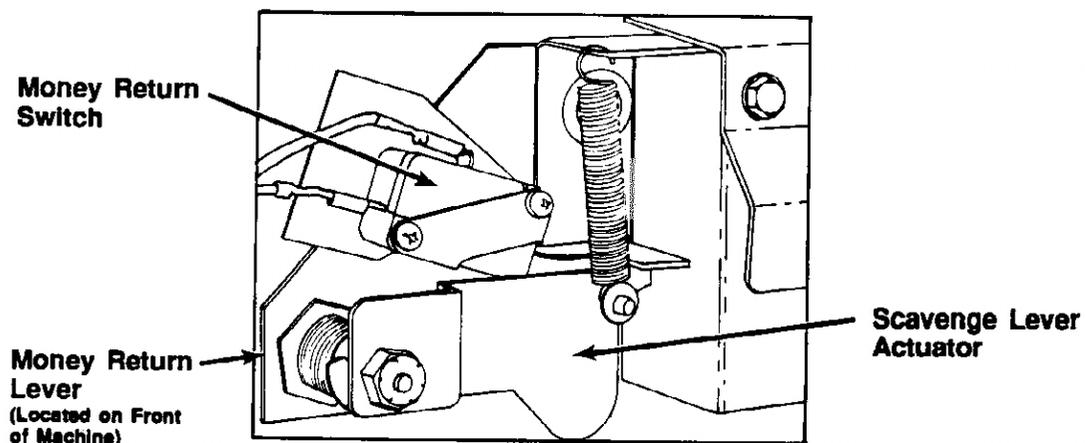

Figure 1-7. BC-1200 Bill Return Switch
When the MONEY RETURN lever on the BC-1200 (see *Figure 1-7*) or the MONEY RETURN switch on the BC-1400 is depressed, a switch closes and sends a signal to the CCC. The coin lockout coil in the (optional) coin acceptor is released and the transport motor rotates in the reverse direction. If the switch is held (ON) for more than 10 seconds, the transport will turn OFF automatically to prevent excess wear and overheating. If it is held ON longer than 10 seconds, the message CHKBILL RETRN will be displayed, and the switch will be ignored until the FUNCTION button is pressed.